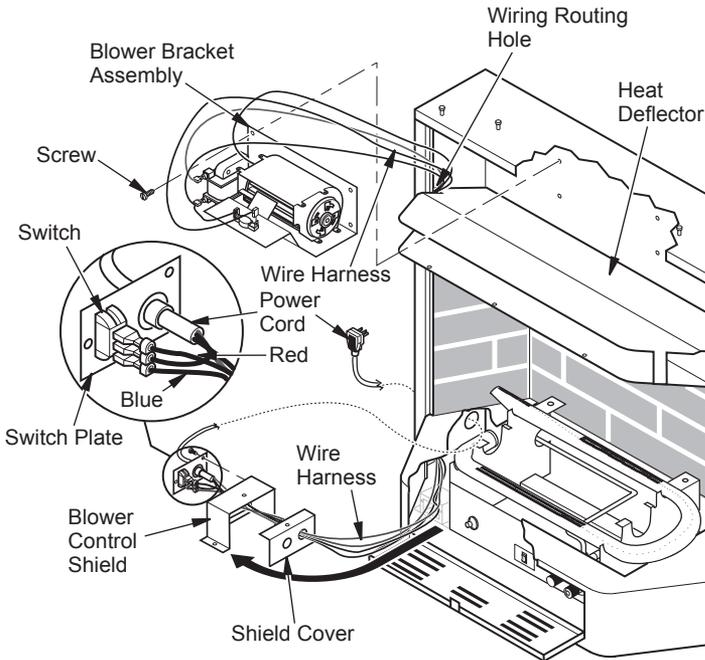

Figure 16 - Installing Blower Bracket Assembly
4. Note the wire locations on back of AUTO/OFF/ON switch. Carefully remove red wire from the AUTO terminal and blue wire from the ON terminal. Black wire can remain on the middle or OFF terminal (see Figure 16, page 13).
6. In top of the heater cabinet, locate the four mounting holes on the outer casing. Align these four holes with those on the blower bracket assembly to the outer casing with 4 - #10 screws provided (see Figure 16, page 13).
7. Route the wire harness through the hole to the left side of heat deflector. Pull wire harness through lower opening to the left of the blower control shield. (see Figure 16, page 13).
- Insert the 4 wire harness into one of the round holes in the rear of the blower control shield and through the rectangular hole in the front of shield (see Figure 16).
ure 17). Route power cord out of the cabinet by inserting it through the bushing on the outer casing (see Figure 16). Plug fan kit into 120-Volt grounded power supply and test operation. **Note:** When switch is in the AUTO position, the fan will start after the heater has run for a few moments. The fan will continue to run for several moments after the heater has been turned off. When switch is in the ON position, the fan will run until turned OFF. Reinstall hood assembly and close lower louver door.